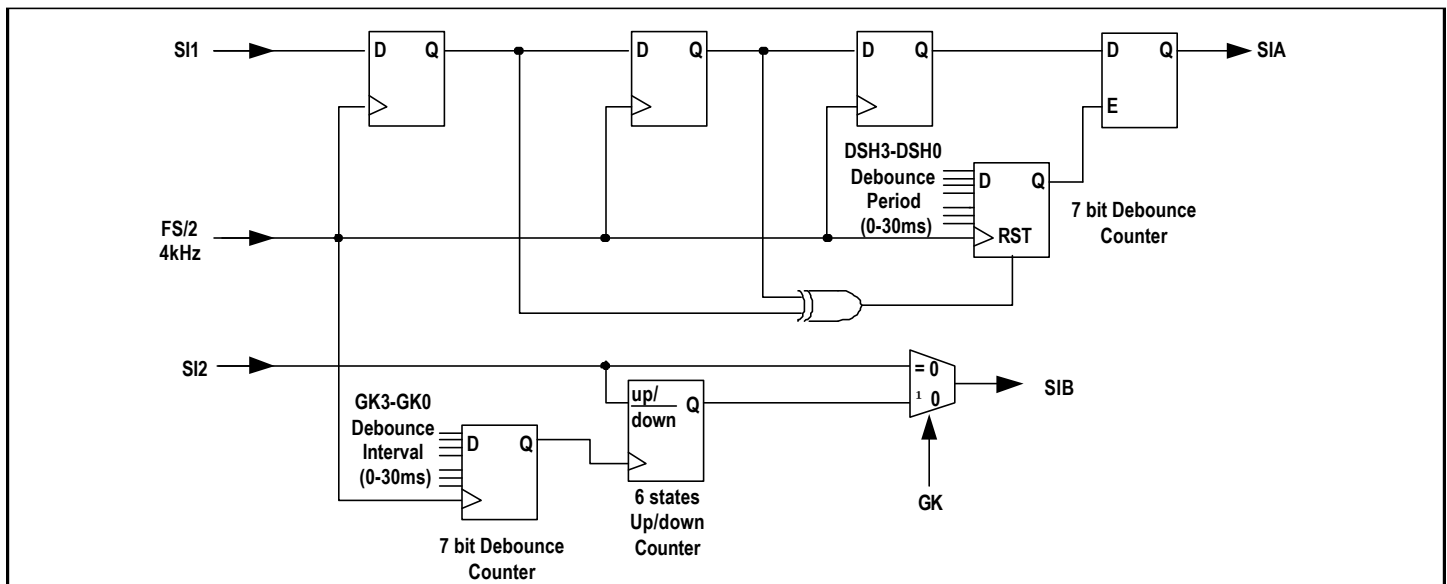

Figure 10. Debounce Filters
For each channel, IDT821068 provides two debounce filter circuits: Debounced Switch Hook (DSH) Filter for SI1 and Ground Key (GK) Filter for SI2 as shown in Figure 10. They are used to buffer the input signals on SI1 and SI2 pins before changing the state of the SLIC Debounced Input SI1/SI2 Registers (Global Command 9 and 10), or, before changing the state of the GCI upstream C/I octet. Frame Sync (FS) is necessary for both DSH filter and GK filter.